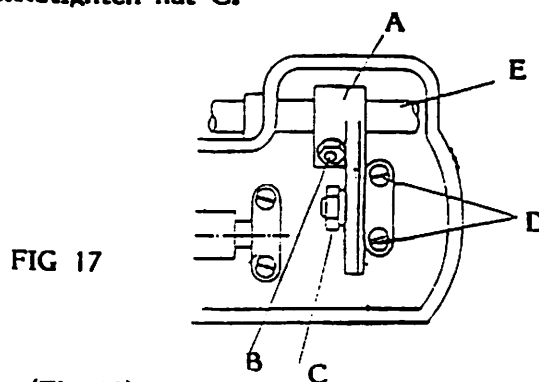

FIG 17
- b).The amount of travel of the puller (Fig 17)Feed length and the amount of travel of the puller normally be maintained the same.To adjust this,loosen nut C,move ball joint assembly inwardly (towards upper shaft)in connecting lever A to acquire more feed action,outwardly acts the reverse.Retighten nut C.